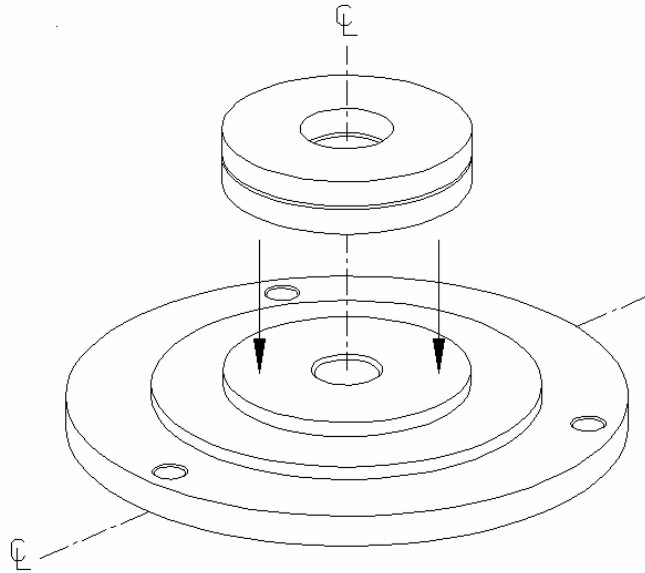

Figure 12
4. Place thrust bearing on bottom plate which has been positioned on the floor. See Figure 12.